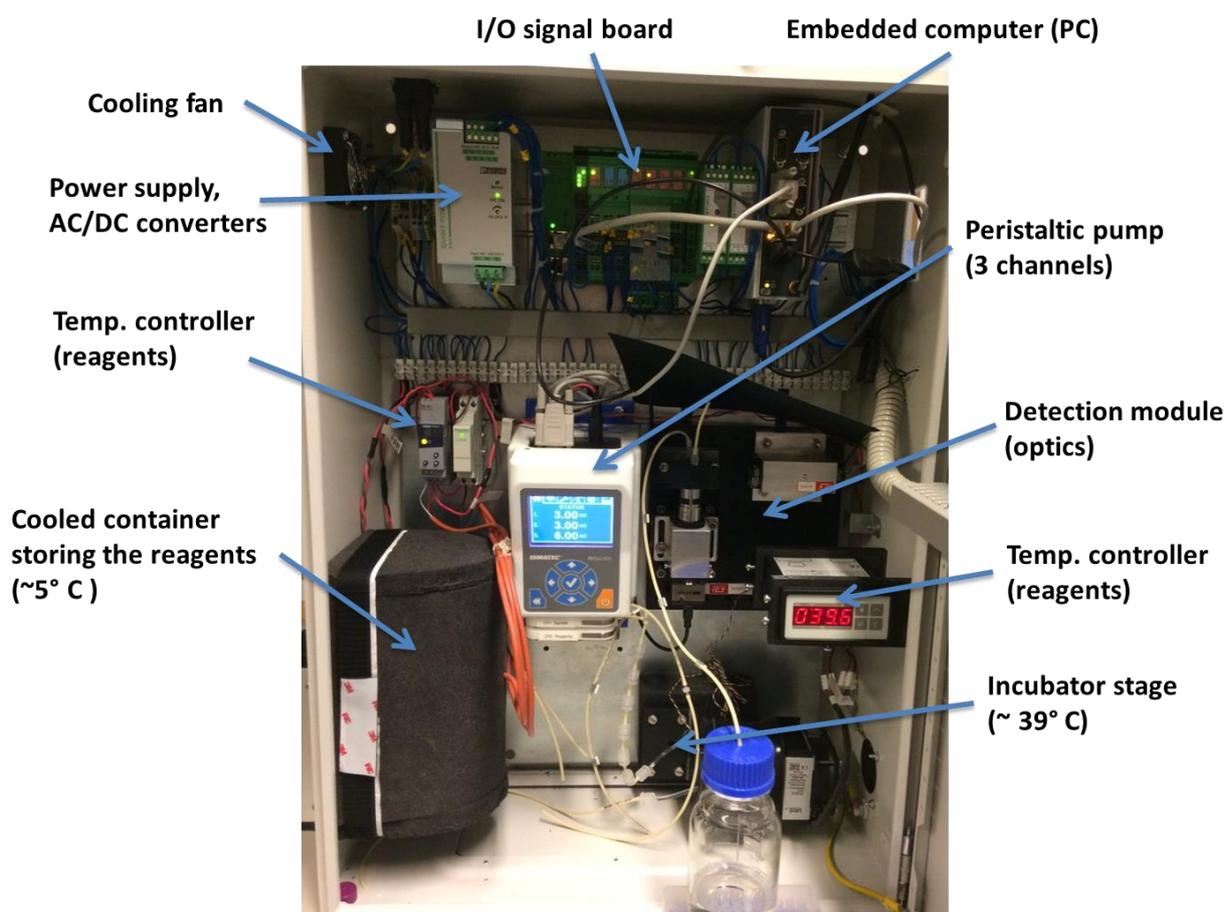

Figure 3. Picture showing the inside of the instruments and where the different components are located.
Figure 3 shows an overview of the hardware inside the instrument, including AC/DC converters, embedded computer (PC), I/O signal device, mixing stage, incubator (holding a  $\sim 39^{\circ}\text{C}$ ), optical detection module, a three channel peristaltic pump, temperature controllers and a container for the reagents cooled down to about  $\sim 5^{\circ}\text{C}$ . Some of the parts will be described in more detail in following sections.